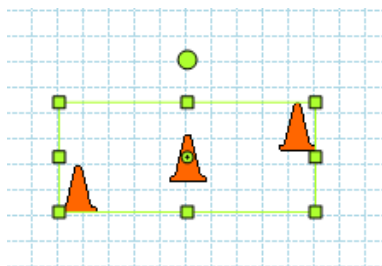

Figure 148. Selected Symbols
1. Press **Ctrl** and then click each symbol to be group together, as shown in Figure 148.